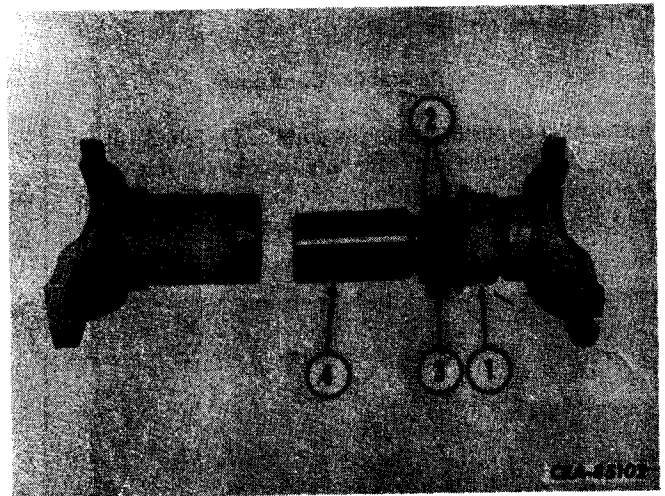

Figure 5-8
Place packing retainer (1, Fig. 5-8), packing (3), and packing retainer washers (2) on splined shaft (4) as shown. Use new packing. Coat shaft splines liberally with chassis grease.